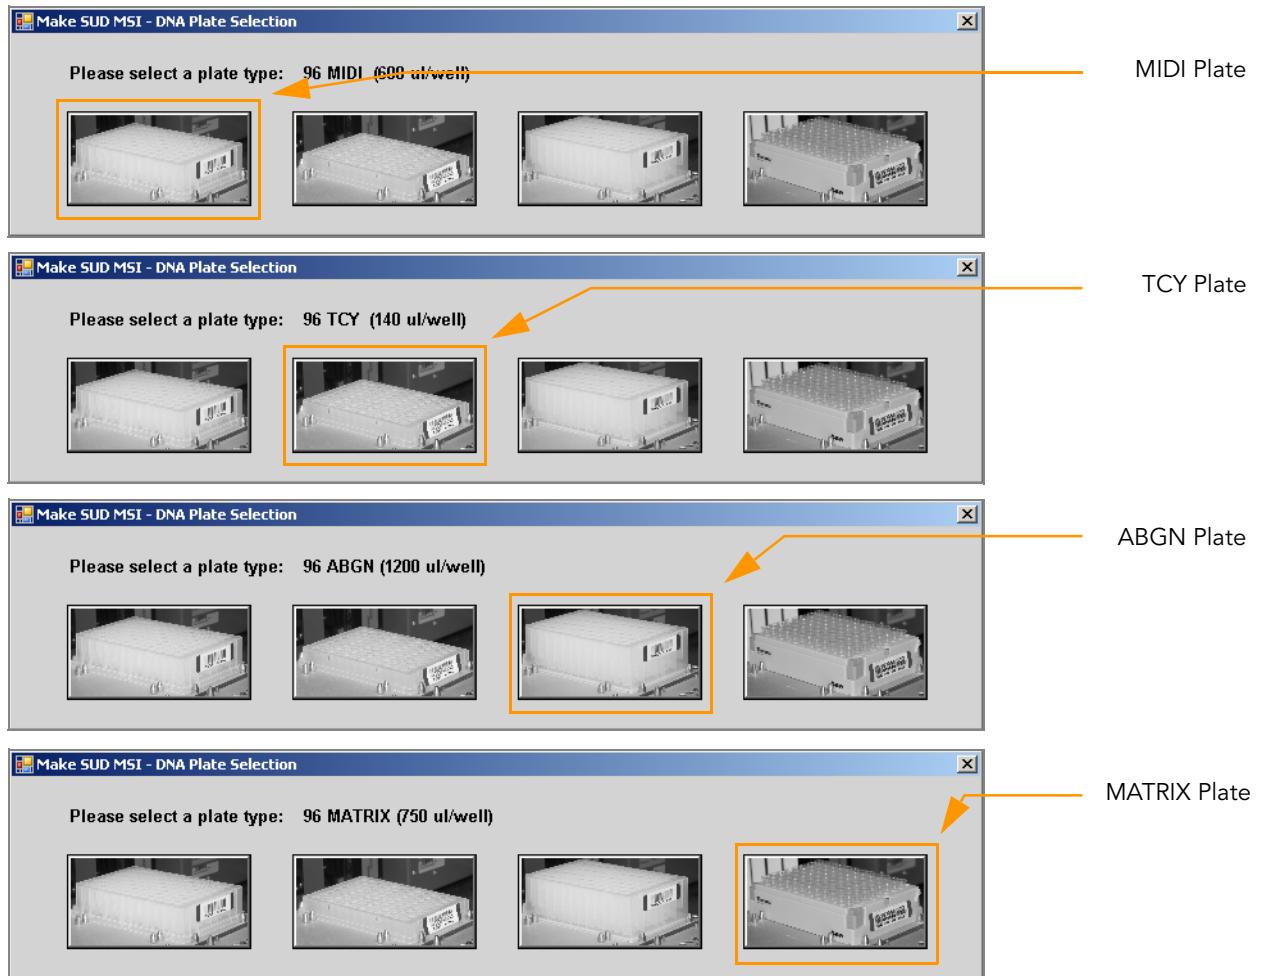

Figure 9 Selecting the DNA Plate Type
2. In the DNA Plate Selection dialog box (Figure 9), click on the plate type you wish to use. Roll the mouse pointer over each picture to see a description.